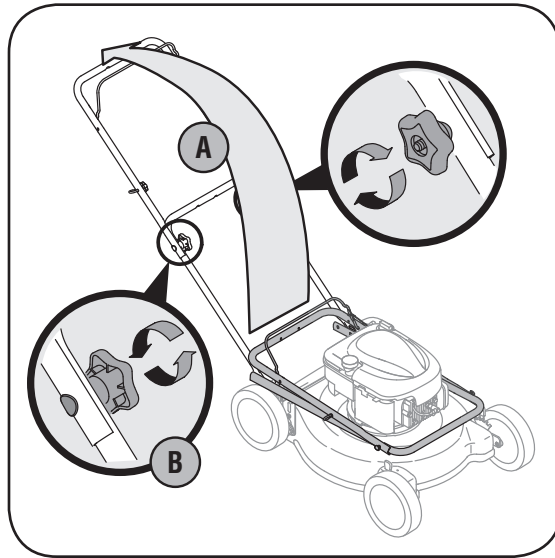

Figure 3-1: Unfold handle and tighten hardware.
- a. Pull up and back on upper handle as shown in Figure 3-1. Make certain the lower handle is seated securely into the handle mounting brackets. Do not crimp cable while lifting the handle up.
- b. Tighten star knobs securing upper handle to lower handle, Figure 3-1. Make sure that each carriage bolt is seated properly in the handle.